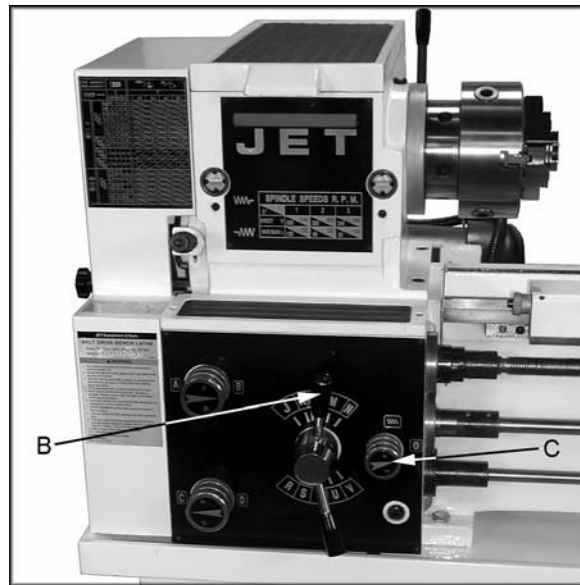

Figure 26
2. Set the selector handle (B, Fig. 26) to the "P" position and turn knob (C, Fig. 26) counter-clockwise so the arrow is pointing up to start the feed rod rotating.